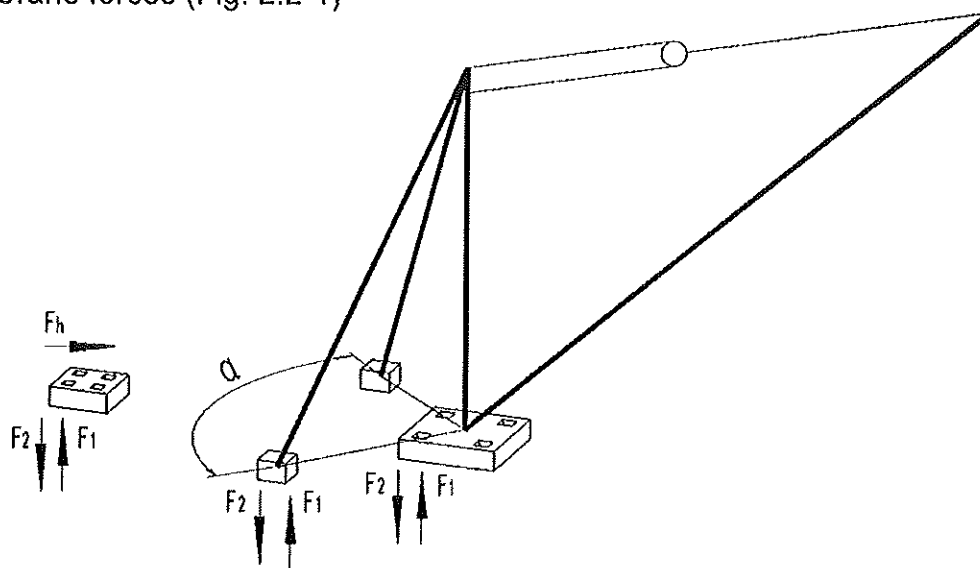

Fig. 2.2-1
2.2.1 Crane forces (Fig. 2.2-1)